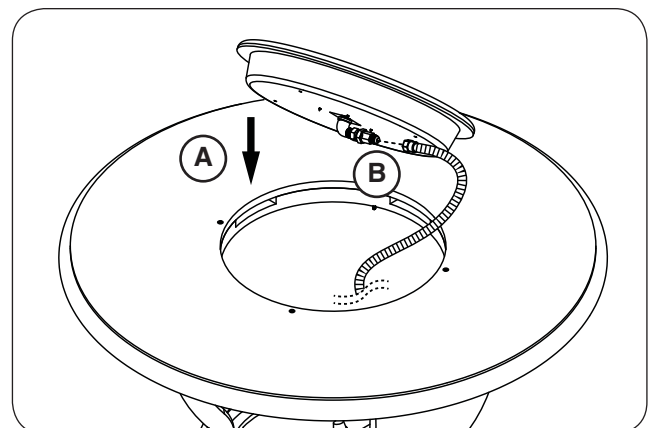

Fig. 23-4 Place burner and connect flex
5. Drop the burner assembly into the opening in the center of the firetable top (see Fig. 23-4, A).
6. Locate the flex connector (marked OUT) that is coming off the valve assembly. Route it to the connection found on the underside of the burner assembly and connect. Tighten securely. See Fig. 23-4, B.